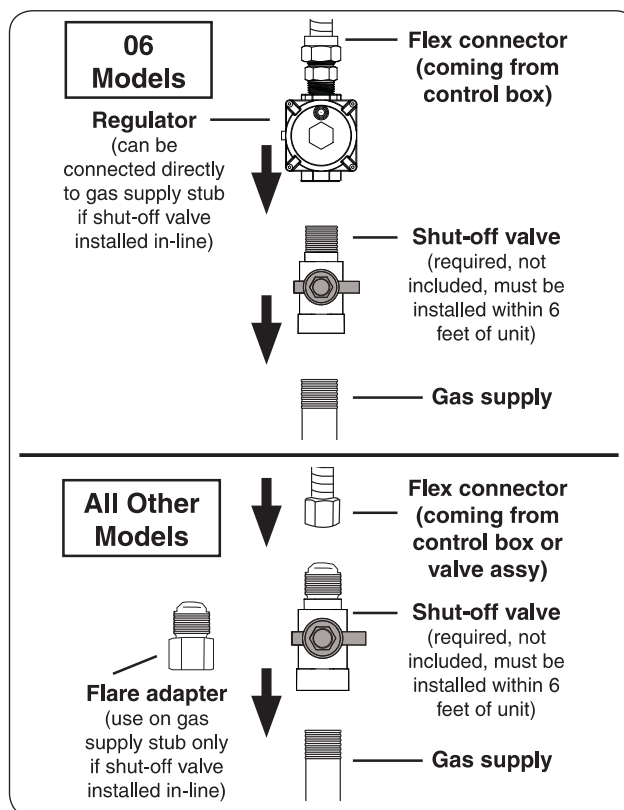

Fig. 24-1 Connecting to a gas line
- Connect the regulator (on end of flex connector) to the shut-off valve OR gas supply using a pipe joint compound resistant to all gasses (see Fig. 24-1). Tighten securely.
- Connect the flex connector to the shut-off valve (see Fig. 24-1). Tighten securely.
- Install the supplied flare adapter to the gas supply using a pipe joint compound resistant to all gasses (see Fig. 24-1). Tighten securely.
- Connect the flex connector to the flare adapter (see Fig. 24-1). Tighten securely.